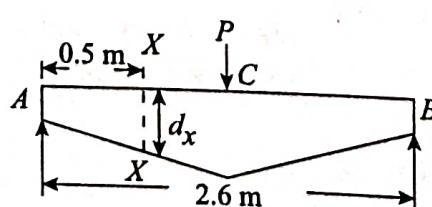

Figure 9.11
**EXAMPLE 9.9:** A simply supported beam of 2.6 m span has a constant width of 120 mm throughout its length with varying depth of 160 mm at the centre to minimum at the ends as shown in Figure 9.11. The beam is carrying a concentrated load  $P$  at its centre.